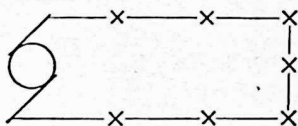

FIG. 32.
**Problem 5.** There are seven arc lamps in series, Fig. 32, each requiring 8 amperes. If each has a resistance of 13 ohms, how many volts must the dynamo supply to the system?